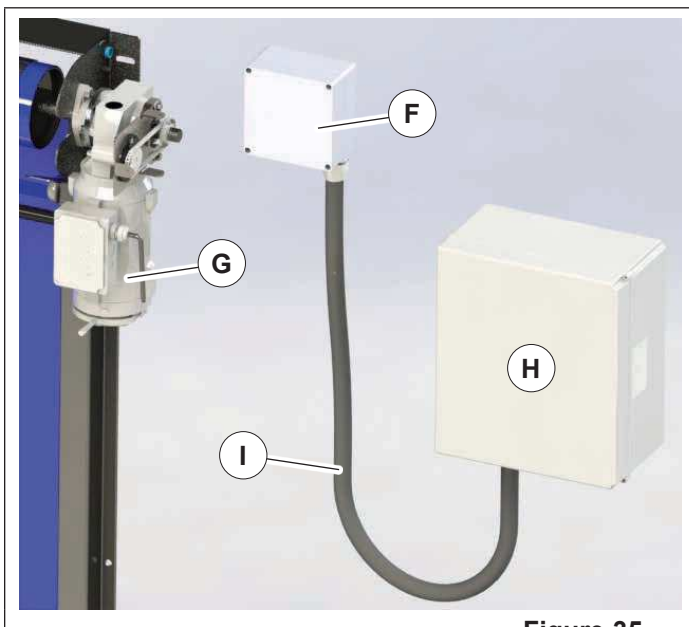

Figure 35
1. Mount the motor junction box (F) (Figure 35) on the wall no more than 3ft [2750mm] from the motor (G), using junction box mounting tabs. Control box (H) and motor cable (I) are pre-wired to the terminal strip. See "Mandatory Field Wiring Diagram – LiteSpeed Washdown" on page 49 for details. Terminal X7 can be used to connect activation devices.